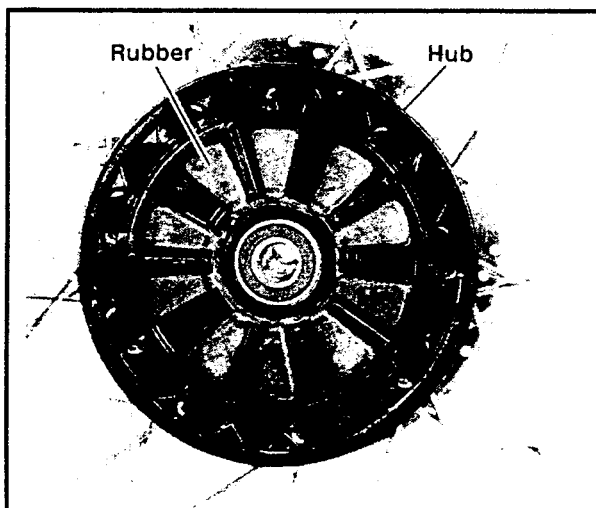

Figure 5-55. Cushion Drive Rubber and Hub
1. See Figure 5-55. If cushion drive rubber was separated from sprocket hub when wheel was removed, install in hub. Be sure rubber segments match arrangement of compartments cast into hub.